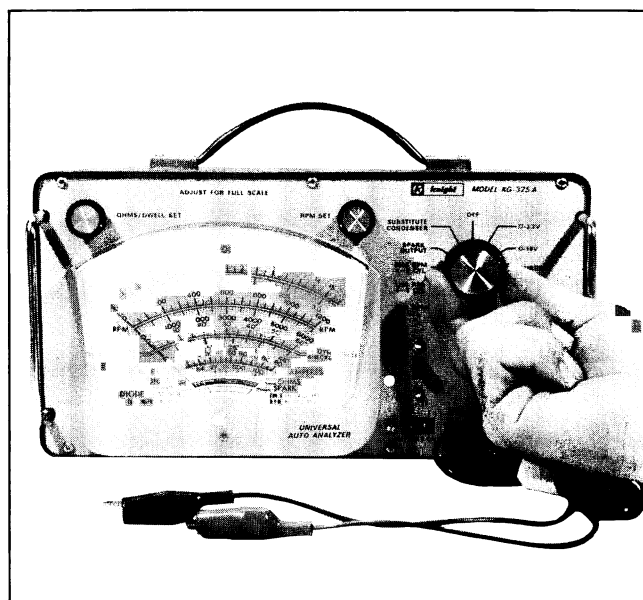

Fig. 20-8 Selecting voltage scale on meter
**Voltmeters.** The typical voltages to be measured on a bike are in the 0-10 or 0-20 volt ranges. If the meter has more than one scale, turn the meter selector switch to a scale where the highest voltage reading exceeds the voltage you expect to measure (Fig. 20-8). The test leads are then connected in parallel to the circuit voltage to be tested. Parallel connection means that current flow of the circuit will *not* have to run through the meter for the circuit to operate.